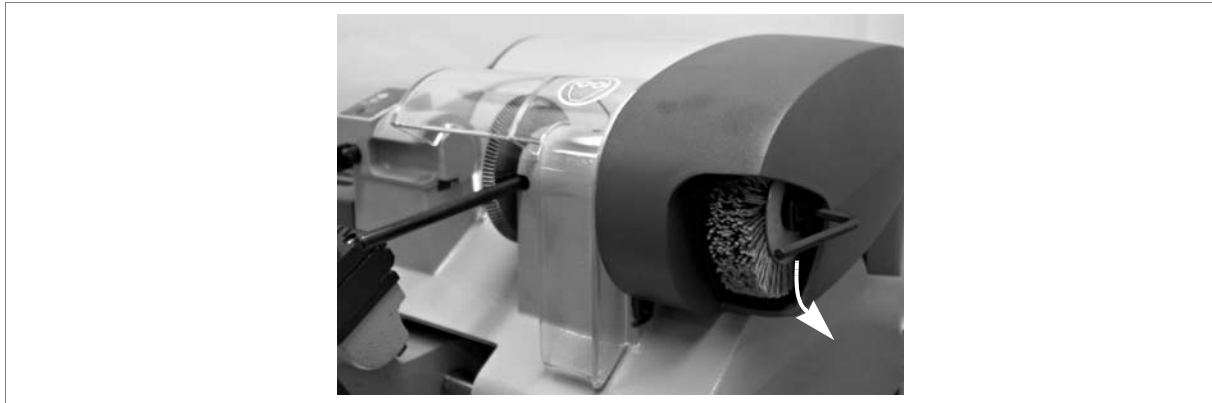

Fig. 22
- 2) Place the locking pin into the groove in the base and into the special hole in the cutter shaft (fig.22).